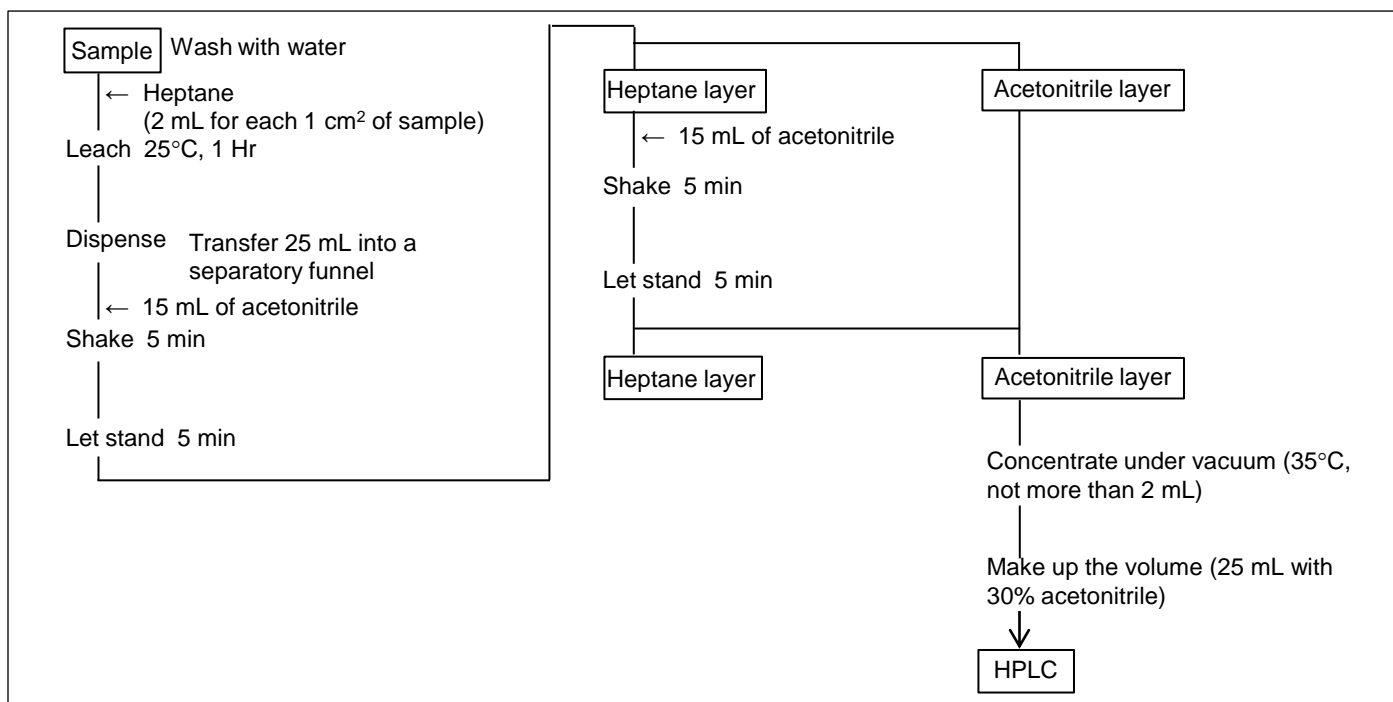

Figure 8 Preparation Method for Elution Test
- ✓ The elution test was performed with reference to "Implements or containers/packages that contact with food fats and oils or fat-rich foods." Unused PC containers were used as the samples. For the sample preparation, the procedures of the solvent switch from heptane to acetonitrile and concentration¹⁾ were added to the procedure conforming to the elution test described in the Food Sanitation Act (Figure 8).